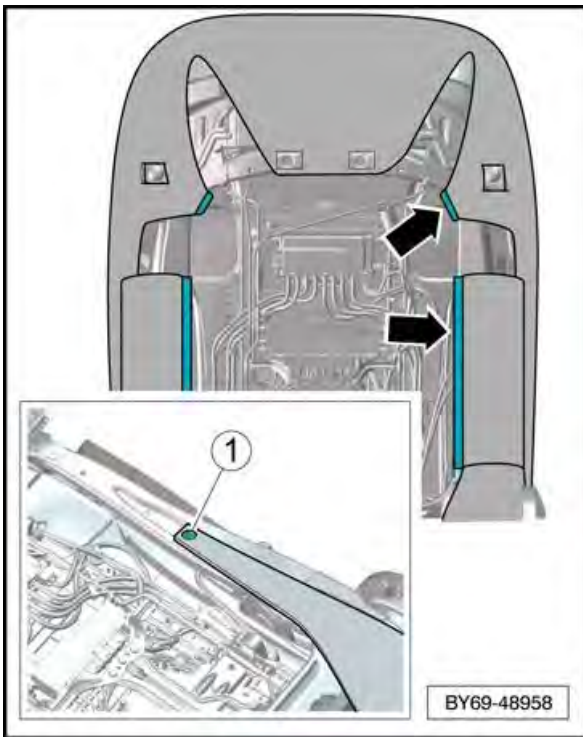

Figure 6
6. Release the squab cover clips—arrows— from the air bag side of the squab frame (see Figure 6)
7. Remove the clip -1- and remove the cover flap. Fold the flap through the underside of the squab and fold back the cover to expose the air bag (see Figure 6)